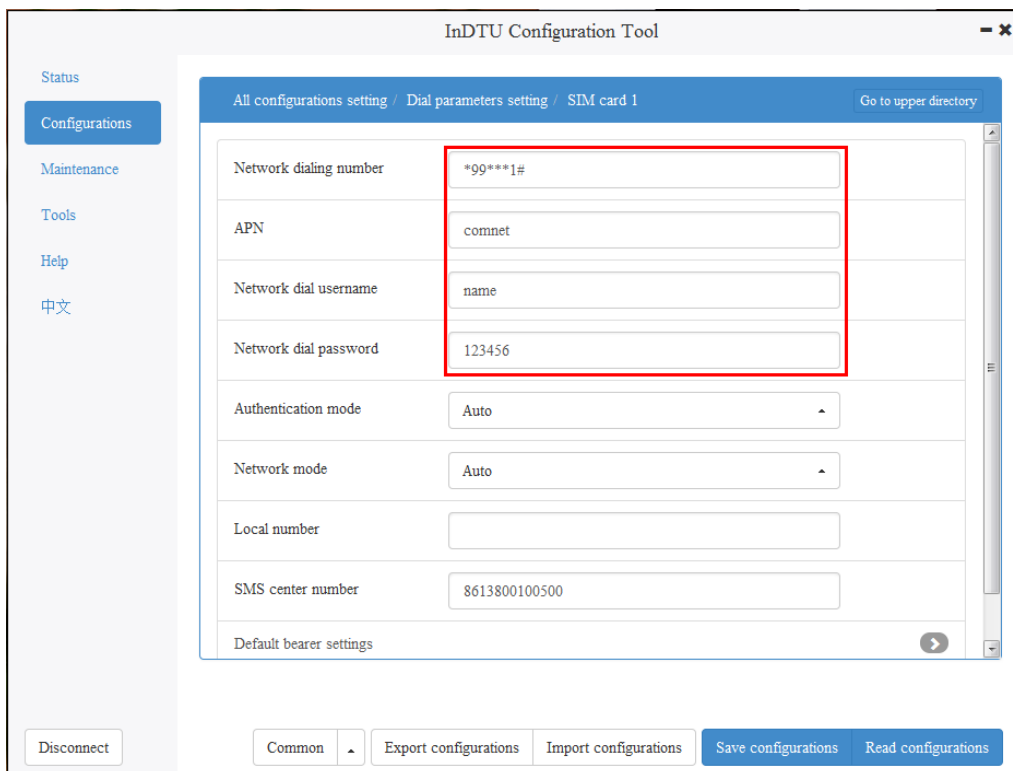

Figure 4-3-2 Setting the TCP server (2)
Step 3: Enter the APN provided by the SIM card operator and the network dial username/password, as shown in Figure 4-3-2.